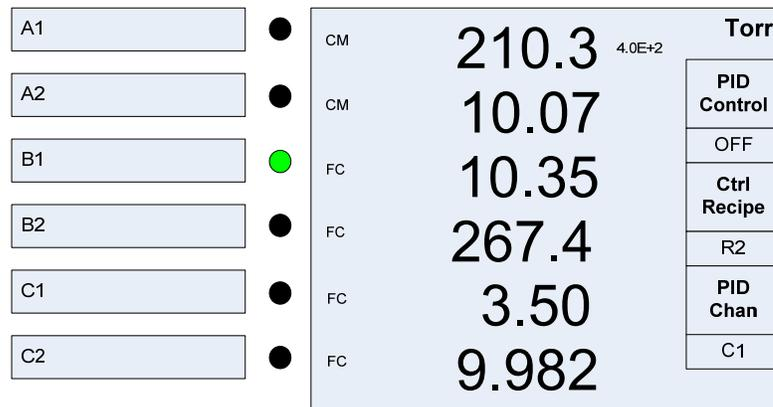

Figure 6-17 Front Panel Display with the Dialog Box for Single MFC PID Control.
- Press  button (you may need to press this key a couple times) until the front panel displays the PID Control dialog box for single channel MFC PID control as shown in Figure 6-17.
- Select the appropriate control recipe for the PID control. Once a PID recipe is selected, the corresponding PID Ch (such as C1 shown in Figure 6-17) will be displayed. This is the channel where the MFC being connected for controlling the system pressure. That is, the flow rate of the MFC will be varied automatically in order to control the system pressure. At the same time, the pressure set point value is displayed on the front panel as well (in align with the corresponding channel where the pressure gauge is connected, such as 4.0E+2 for A1 as shown in Figure 6-17) to assist the identification of the pressure gauge being used for control, and the comparison between the real pressure reading and corresponding set point value.
- Switch the PID Control parameter from ON to OFF as shown in Figure 6-17. Once the PID control is turned off, the flow rate for the MFC will be changed to the Preset set point as defined in the recipe as shown in Figure 6-14.